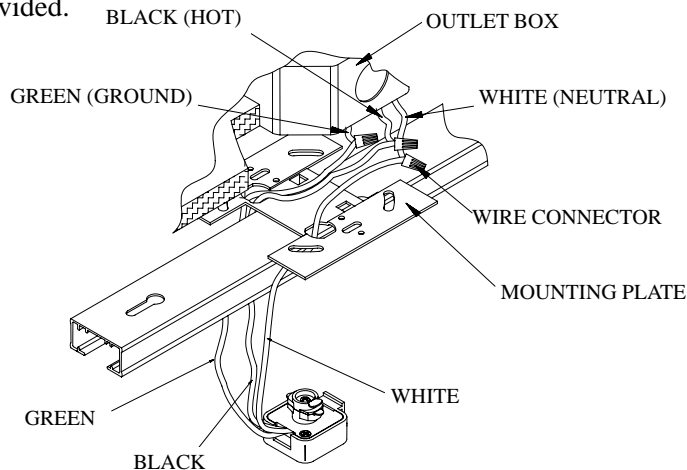

FIG. 4
2. Connect the white wire (neutral or common) from the supply circuit to the white wire from the floating live-end connector. Connect the black (hot) wire from the supply circuit to the black wire from the floating live-end connector. Connect the green or bare copper ground wire from the supply circuit to the green conductor of the floating live-end connector. Secure splices with UL Listed wire connectors suitable for the size, type and number of conductors. (see Figure4.)